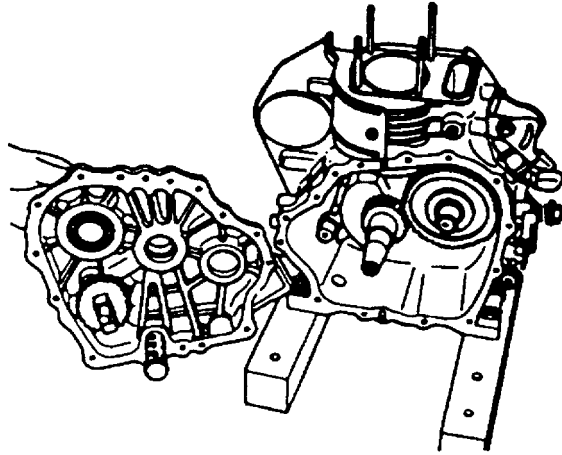

Figure 6-10 Removing the crankcase cover
- 2) Remove the crankcase cover (see Figure 6-10).